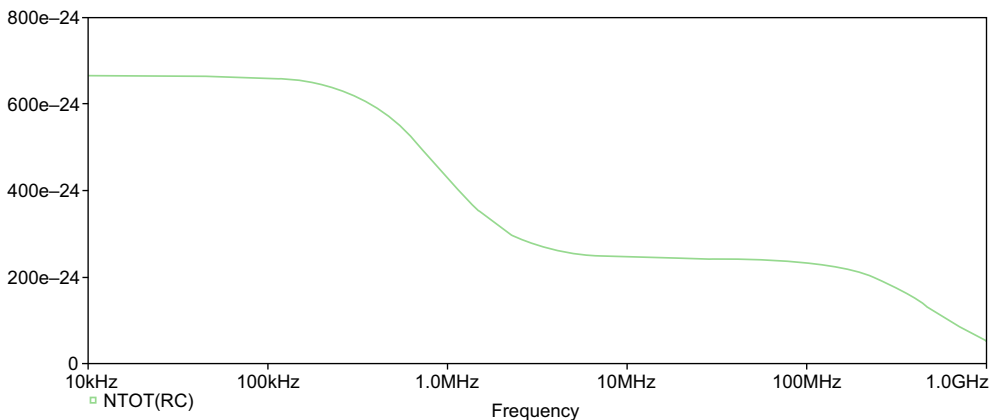

FIGURE 14.4
4. In PSpice, add the trace (**Trace > Add**) for the noise contribution from the collector resistor, **NTOT(RC)** (Figure 14.4). Units are V^2/Hz .